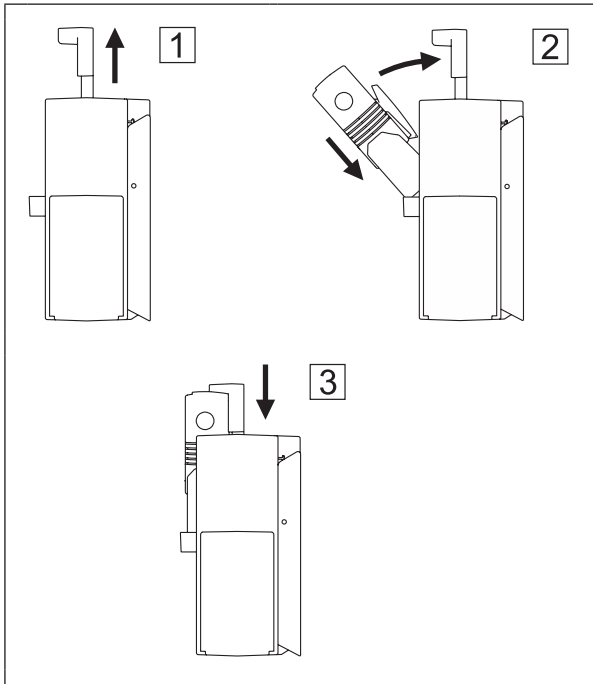

Fig. 14: Placing the device in the test set
1. Pull the locking mechanism upwards as far as it will go (fig. 14 **[1]**).
2. Place the device with the front lower edge in the device holder. Tilt the device backwards (fig. 14 [2]).
3. Push the locking mechanism down completely (fig. 14 [3]).